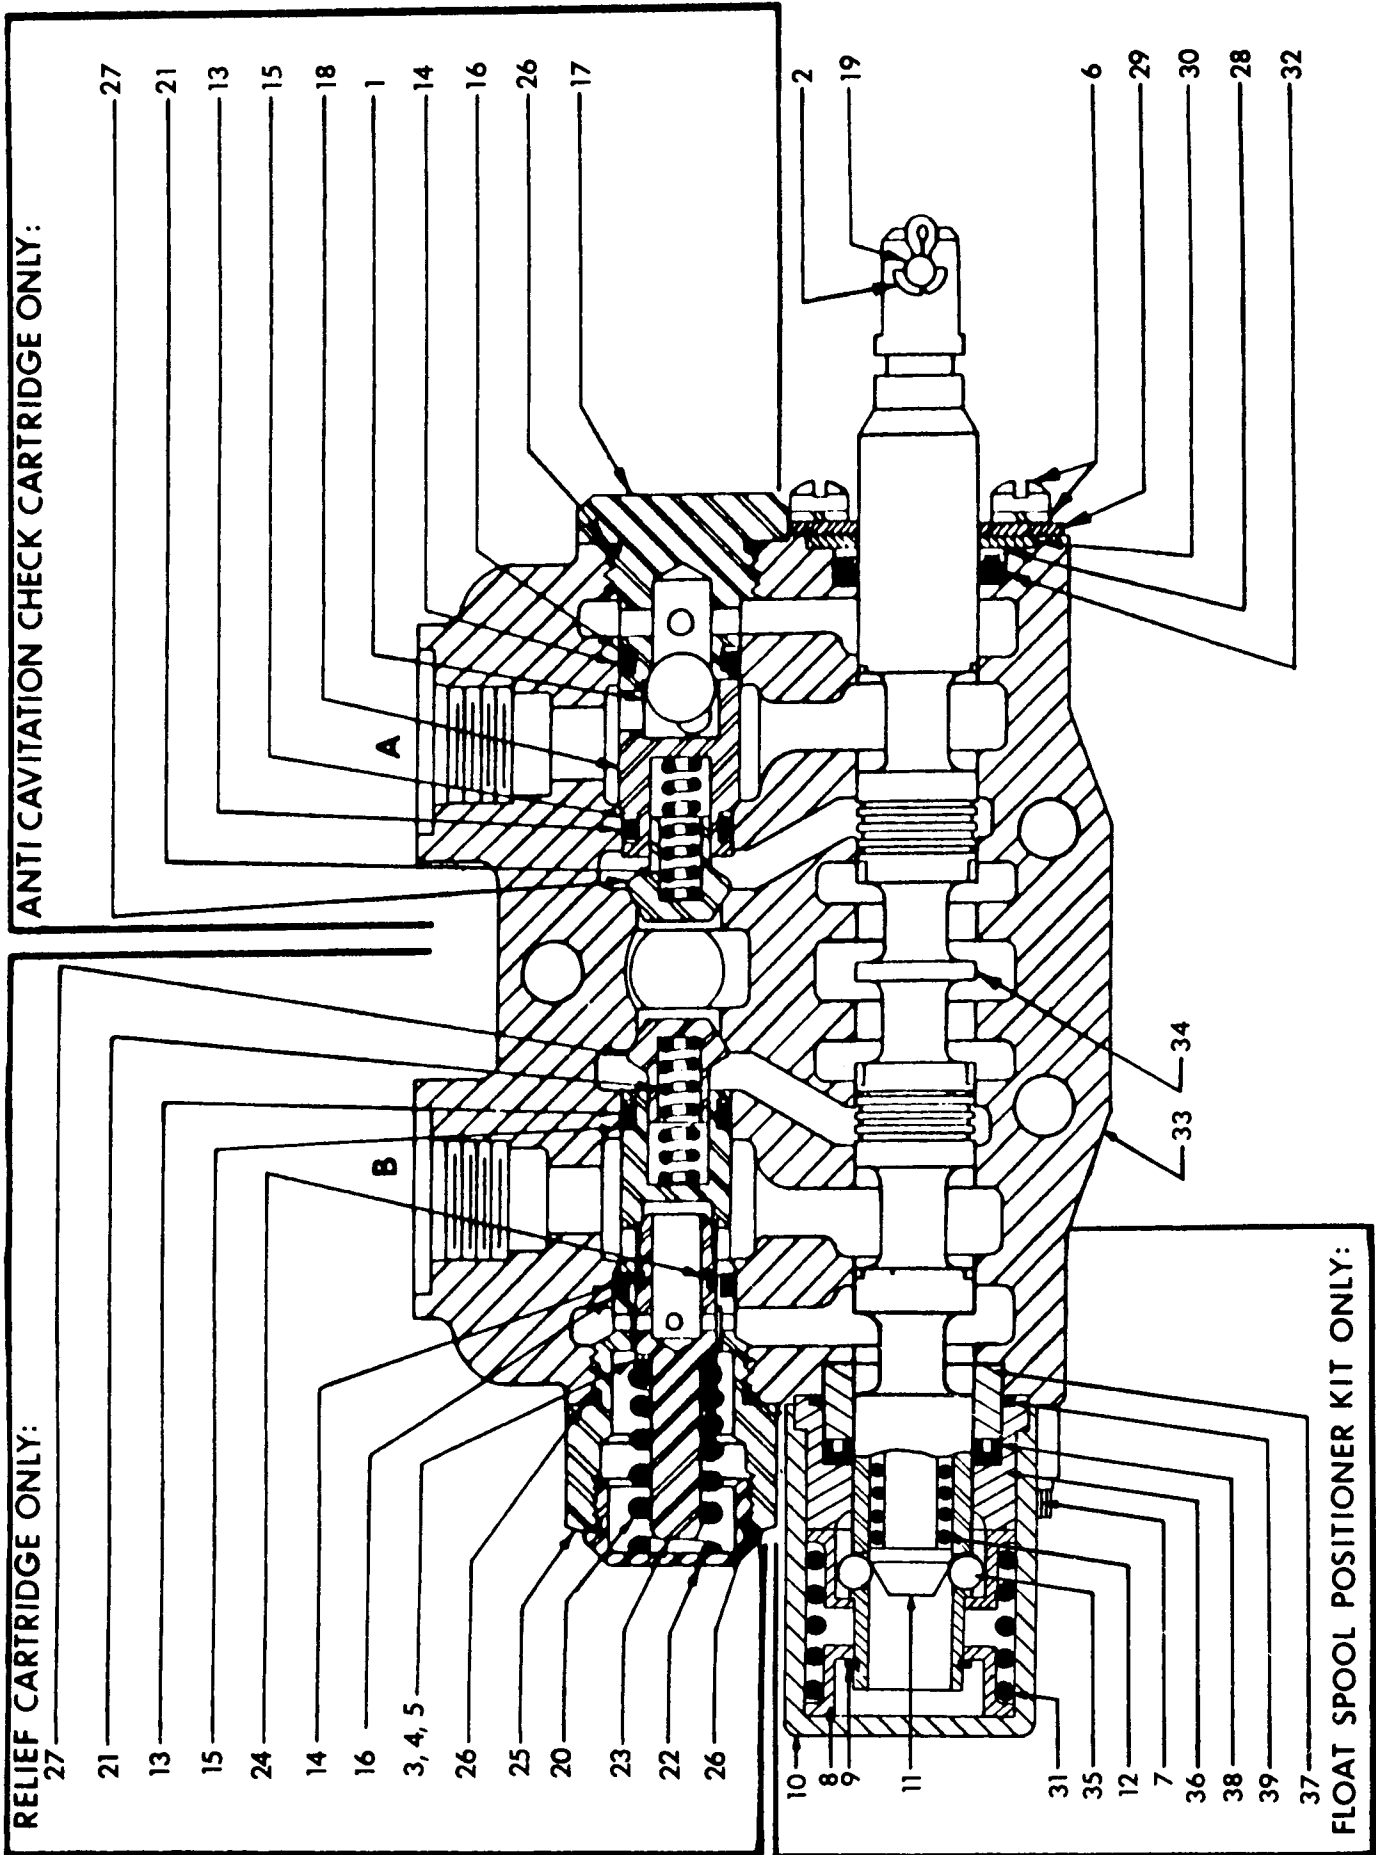

FIG 8
20. Bent spool.....	replace with new spool section. See item 31 at the end and Fig 8, 9, 10.
23. Spool not moved to full stroke.....	check travel, should be 5/16 inch either way or a total of 5/8 inch. See item 31 at the end.
25. Overload relief valve in the control.... valve stuck open or malfunctioning.	clean relief carefully but do not disturb its pressure setting as it can not be field calibrated, or replace cartridge. See item 31 at the end and Fig 8 and 9.
28. Check poppet in the control valve.....clean check poppet(s) carefully, being sure that it moves freely with good spring action and seats properly or replace. See item 31 at the end and Fig 8, 9, and 10.
29. Damaged or worn spool seals.....replace spool end seals, see item 31 at the end and Fig 8, 9, and 10.
30. Check ball in anti-cavitation check.....clean anti-cavitation valve carefully, being sure that checks move freely and seat properly, or replace cartridge. See item 31 next, and Fig 8 and 9.
PARTS LIST - FIG 8